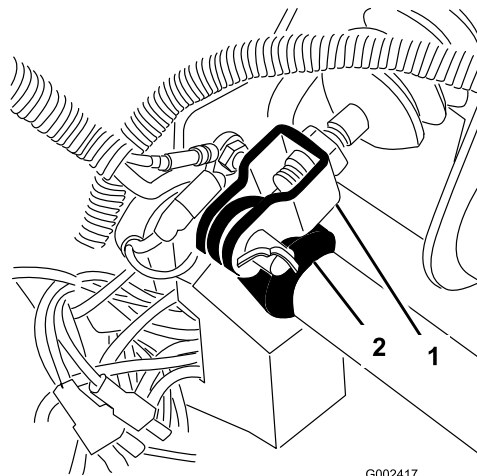

Figure 59
1. Remove the cotter pin and clevis pin securing the master cylinder yoke to the brake pedal pivot (Figure 59).
3. Loosen the jam nuts securing the yoke to the master cylinder shaft (Figure 59).